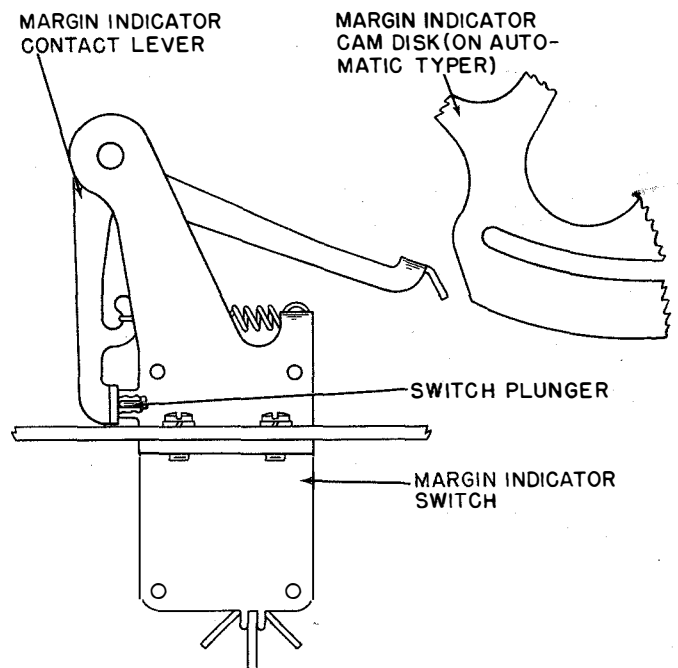

Figure 2-29. Margin Indicator Mechanism
k. **MARGIN INDICATOR MECHANISM.**—The margin indicator cam disk on the automatic typer spring drum rotates with the drum as printing or spacing occur. See paragraph 4.g.(1) of this section. As the end of each line is approached, the cam surface of the disk makes contact with the margin indicator contact lever and rotates it clockwise about its pivot point (figure 2-29). When the contact lever leaves the switch plunger, the switch S-102 operates and closes the circuit to a margin indicator light I-751 in the Cabinet (figures 2-3 and 2-79). A carriage return cycle returns the cam disk to its starting position and the margin indicator light switch reopens.